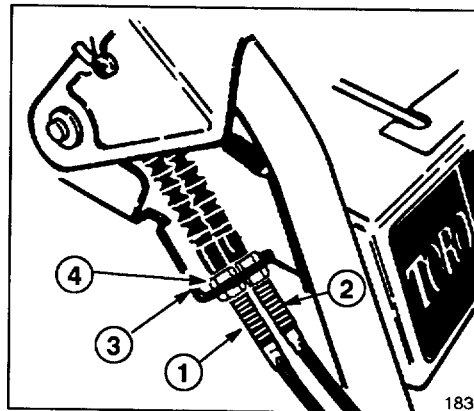

Figure 29
4. Loosen upper jam nut securing auger/impeller cable to mounting bracket (Fig. 29).
## ADJUSTING TRACTION DRIVE BELT (Fig. 29)
8. On control cable which corresponds to belt being replaced, loosen jam nuts securing cable to bracket (Fig. 29). Cable must be free to slide in bracket when changing belt(s).